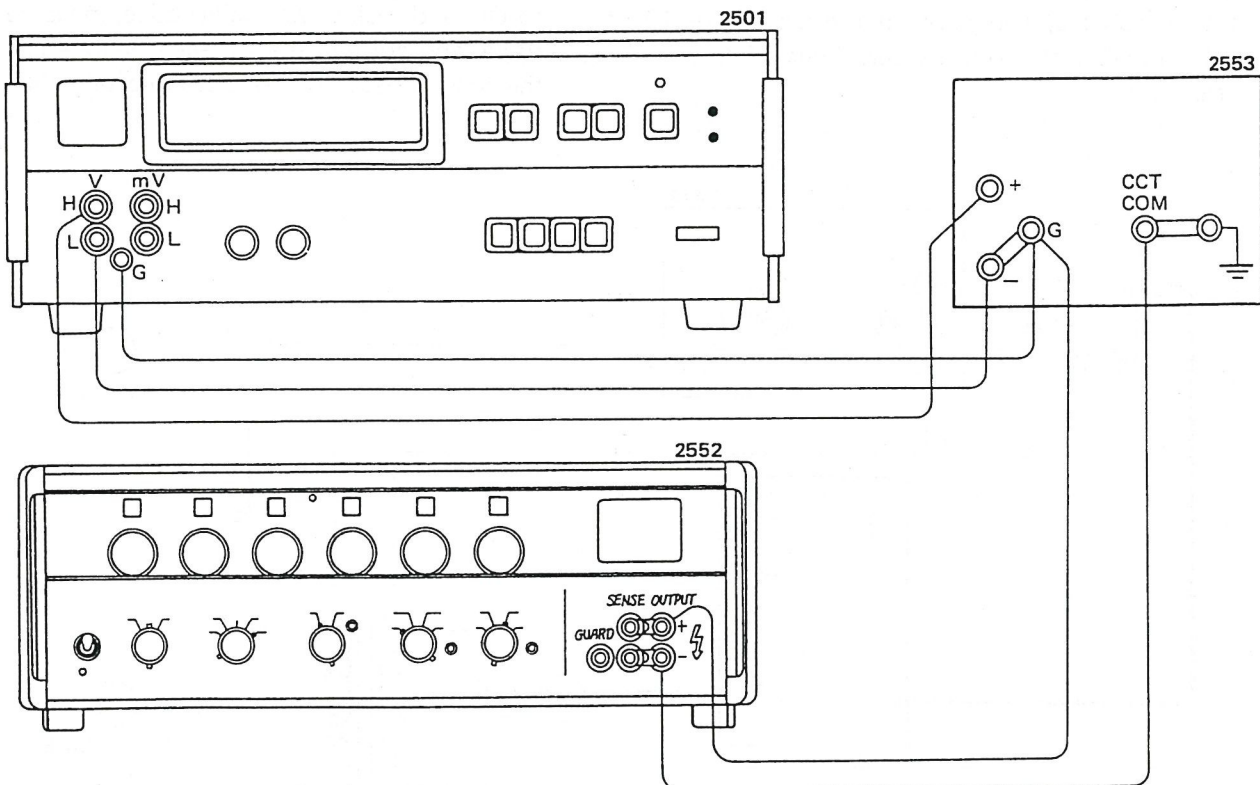

Figure 2-8. Setup for DC CMRR Inspection as Voltage Standard.
- a) Connect this instrument, Type 2501 and Type 2552 as shown in Figure 2-8.